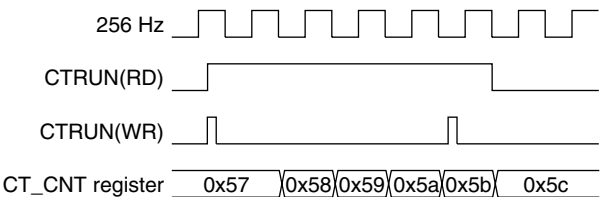

Figure 13.4.2 Run/Stop Control Timing Chart
- The clock timer switches to Run/Stop status synchronized with the 256 Hz signal falling edge after data is written to CTRUN. When 0 is written to CTRUN, the timer stops after counting an additional “+1.” 1 is retained for CTRUN reading until the timer actually stops. Figure 13.4.2 shows the Run/Stop control timing chart.